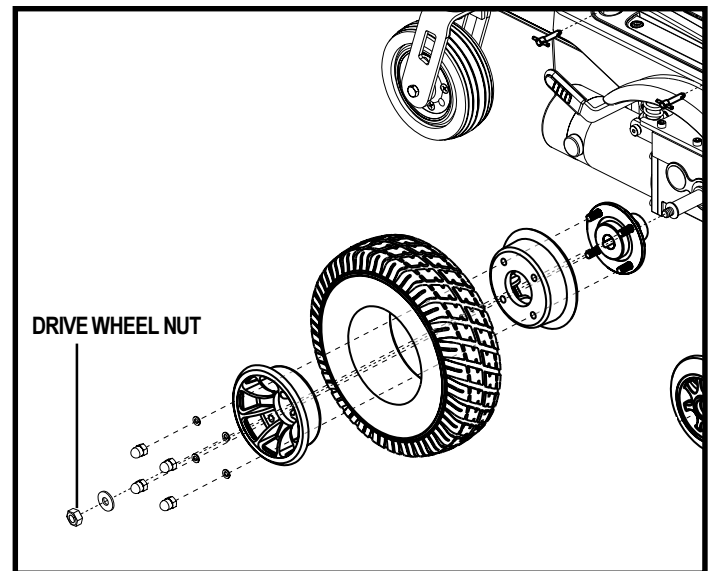

Figure 36. Quantum 1107 Drive Wheel
6. Remove the hardware that fastens the two rim halves together. See figure 36.